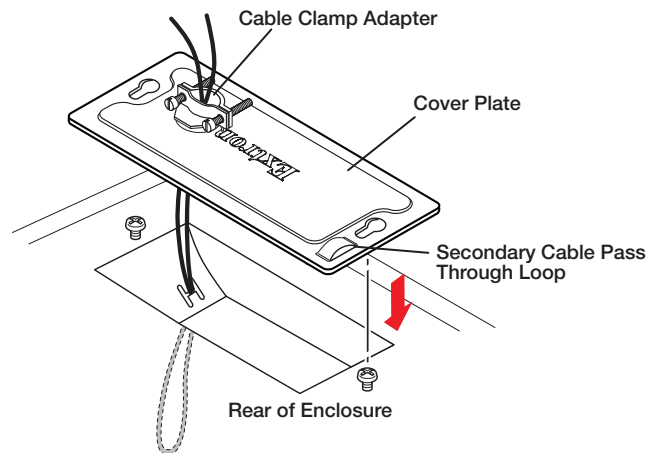

Figure 29. Routing the Cables Without a Conduit
- Insert the wires through the clamp and cover plate, as shown in figure 29.